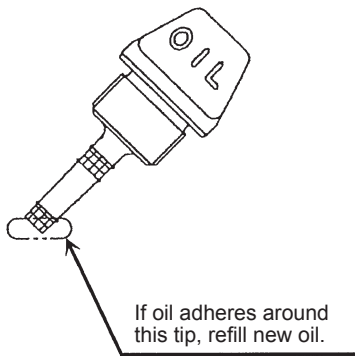
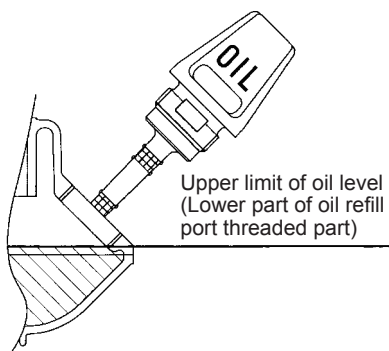

Fig. 1
Fig. 2
- While keeping the engine level, remove the oil gauge, and confirm that the oil is filled within the upper and lower limit marks. When the oil is in short in such a way that the oil gauge touches the oil only by its tip, in particular with the oil gauge remaining inserted in the crankcase without screwing-in (Fig. 1), refill new oil near the port (Fig. 2).
- (1) Keep the engine level, and detach the oil gauge.
- (2) Fill oil up to the edge of the oil refill port. (Refer to Fig. 2).